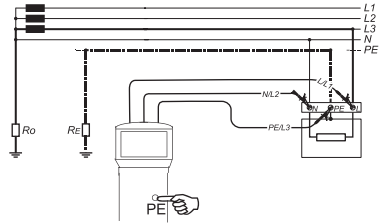

Figure 5.4.3 Connection loop resistance, test with test leads
- Now, connect the desired test leads to the UUT. Please refer to Figure 5.4.2 or Figure 5.4.3 for connection.